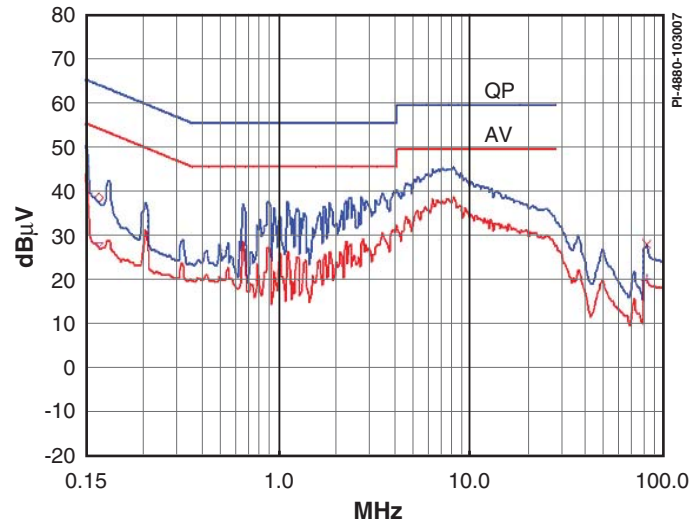

Figure 3. Worst Case Conducted EMI Measured at 230 VAC With Output Grounded.
- Meets CISPR-22/EN55022 B conducted EMI limits with >10 dBμV margin (see Figure 3)